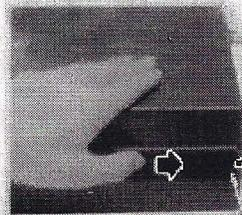

Figure 1
- (1) Switch off the transceiver and disconnect all cables from the rear panel.
- (2) Referring to figure 1, use a sharp instrument (such as a small screwdriver) to depress the catch pin in the strip on the side of the set (near the rear), while sliding the strip towards the rear with your hand.